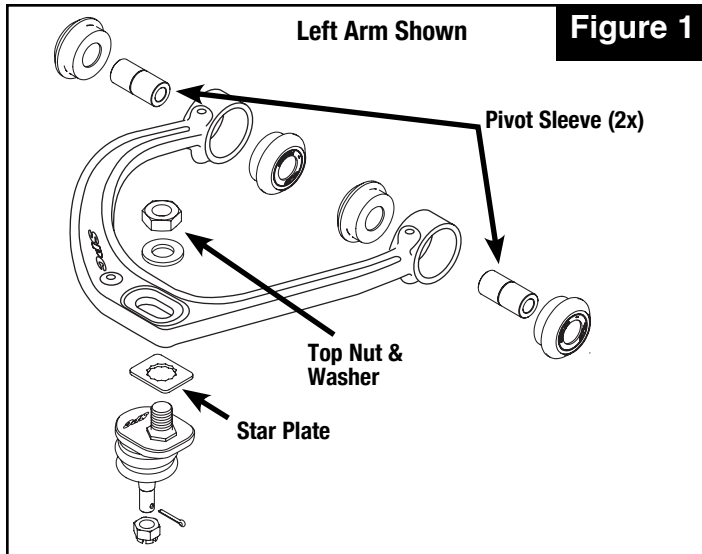

Figure 1
7. Push supplied bushings into each SPC control arm, see **Figure 1**. Do not grease outside of bushings when installing.